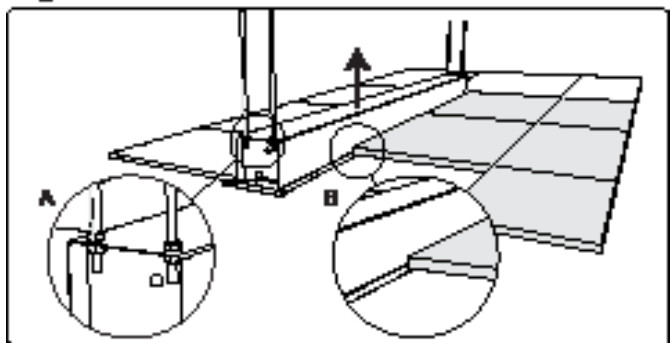

Figure 2
- Tighten nuts until trim flange is flush with ceiling (A & B in fig 2).
- Magnet will hold cover in place (A in fig 2).